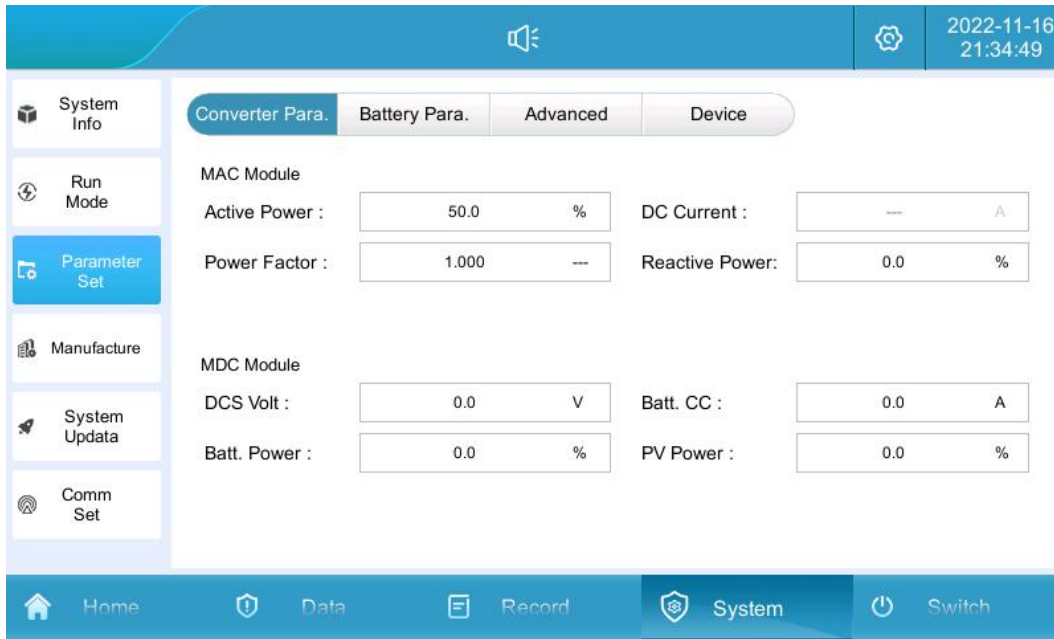

Figure 5-8 Power limit settings
2、 Set the control mode to “Manual Mode” , set the corresponding active power, power factor, reactive power size in the “Parameter Setting” page, and the machine will run according to the set value (positive value for discharging, negative value for charging). The power setting interface is shown in Figure 5.8.